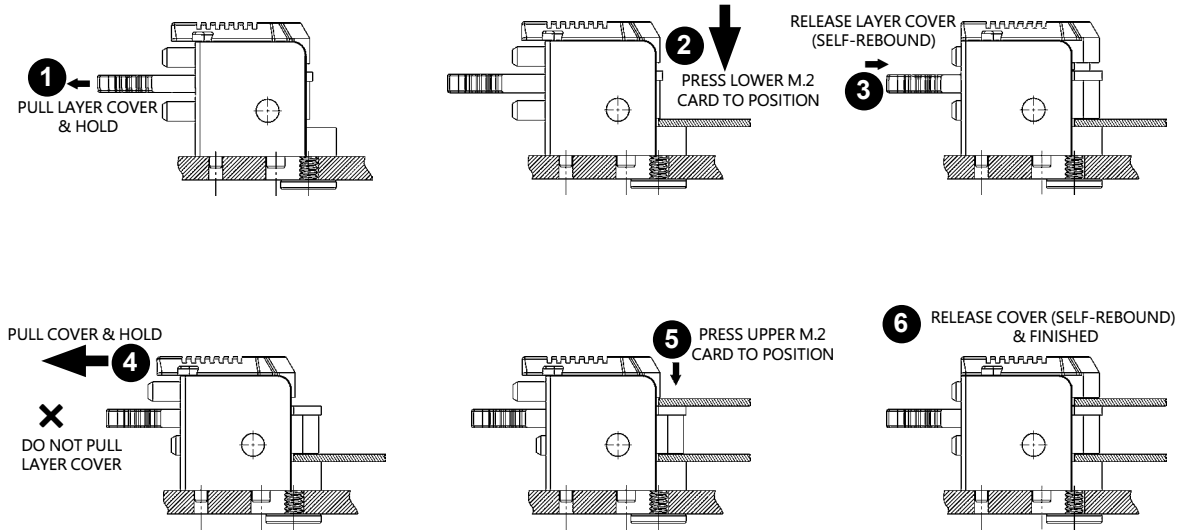

Figure 3-19. Installing a Drive into a Carrier
3. Insert a PCIe Gen 3 x4 M.2 SSD into the lower J7 slot. Next, follow the instructions from **1** to **3** in Figure 3-19.
4. Insert a PCIe Gen 3 x2 M.2 SSD into the upper J7 slot. Next, follow the instructions from **4** to **6** in Figure 3-19.